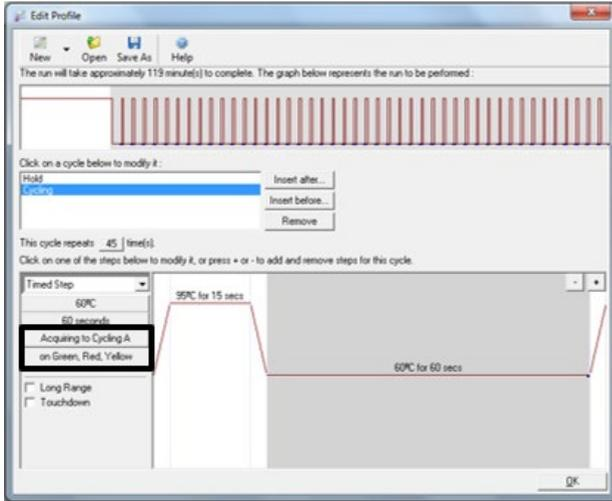

Figure 17. Edit Profile. "Acquiring to Cycling A".
23. Ensure the that acquiring parameter is set to **Acquiring to Cycling A on Green, Red, Yellow** (Figure 17).